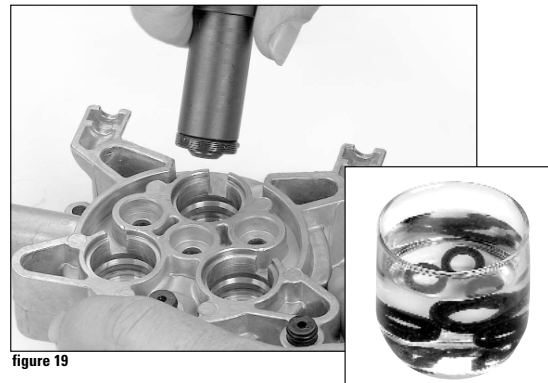

figure 19
- Soak new oil seals in water for 10 minutes. (inset figure 19)
- Place seal in housing using installation tool. (figure 19)